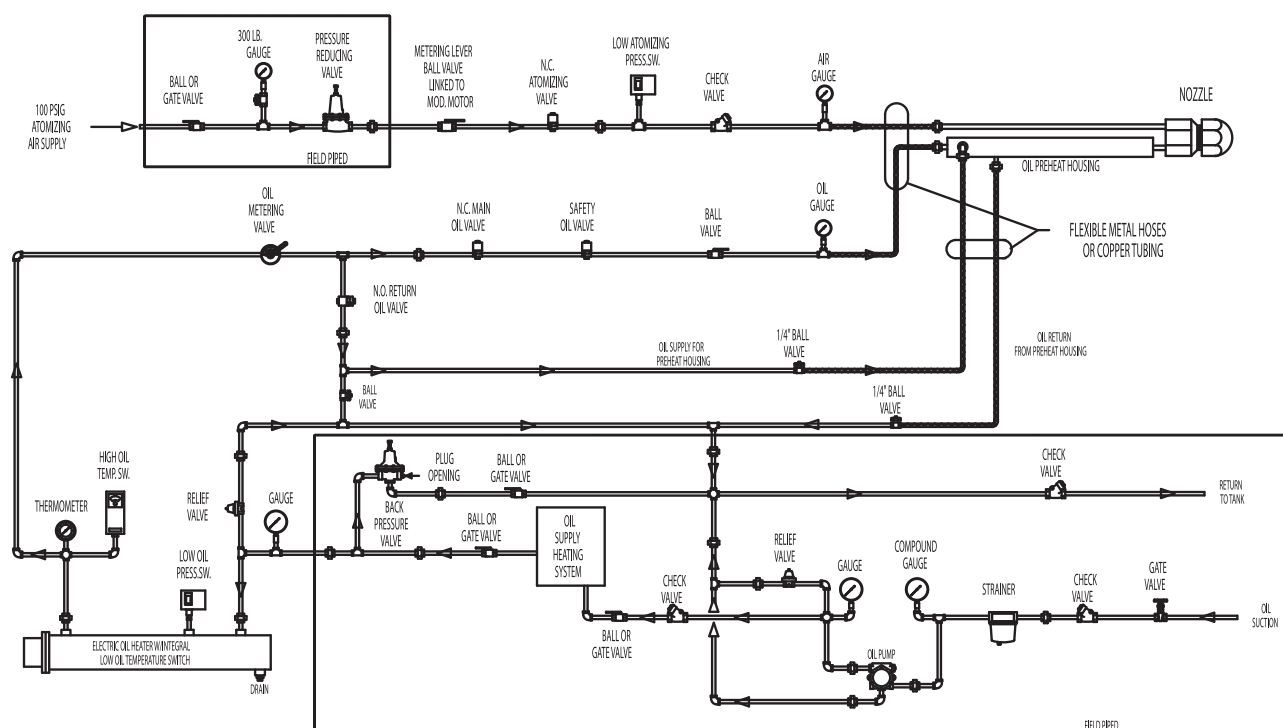

Figure F-4 Heavy Oil Schematic
f. The oil may take some time to get up to temperature. If the oil is cool, the ball valve downstream of the N.O. oil return valve (Figure F-4) can be opened to make it easier for the oil to circulate and reach operating temperature.